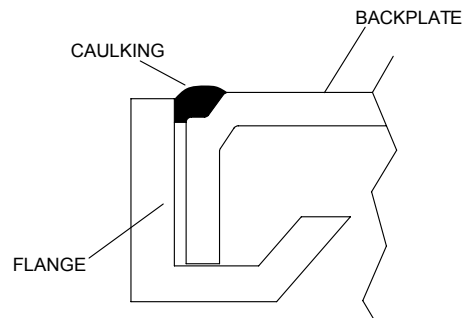

FIG.4
4. For wet location, see FIG 4.
CAUTION: For wet locations. In accordance with Underwriters Laboratories requirements, a line of caulking compound such as acrylic latex or silicone must be placed around the perimeter of backplate also contacting the flange (as shown) to seal against mounting surface keeping water away from the outlet box and back opening. (FIG.4)